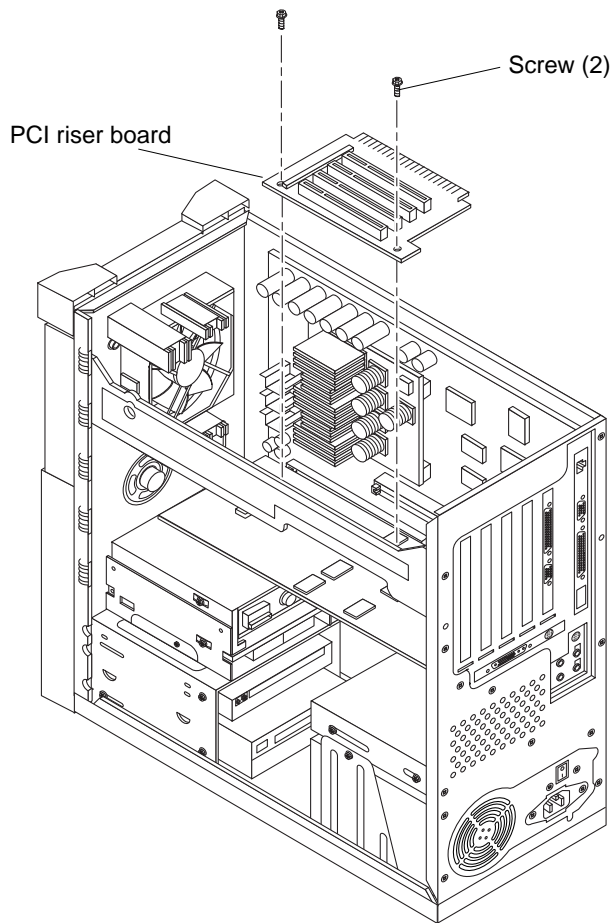

FIGURE 8-6 Removing and Replacing the PCI Riser Board
3. **Remove the PCI riser board as follows (FIGURE 8-6):**
1. Replace the PCI riser board as follows (FIGURE 8-6):